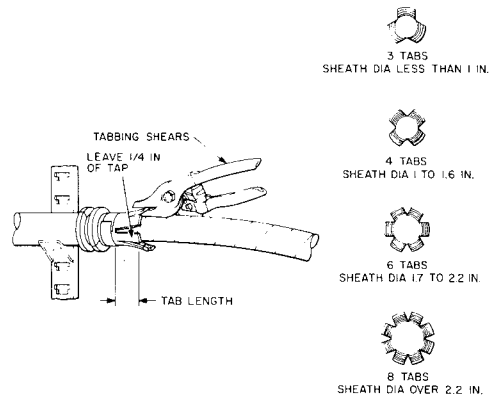

Fig. 9—Cutting Tabs
**3.09** Make equally spaced longitudinal cuts through the outer jacket to the edge of the remaining tape marker as shown in Fig. 9. The cuts should be made through the polyethylene and metal layers. Avoid injuring the inner polyethylene jacket. Tab lengths are purposely made one inch longer to facilitate binding the tabs over the inner sheath clamp. Tabs will ultimately be trimmed back as outlined in paragraph 3.14.
**3.10** Cut out and remove a section of one tab to accommodate the inner clamp as illustrated in Fig. 9. Leave a 1/4-inch width to assist in limiting the inward travel of the clamp. The ears of the inner clamp must fall in the center of one of the cases after assembly to ensure good electrical contact with the splice case.